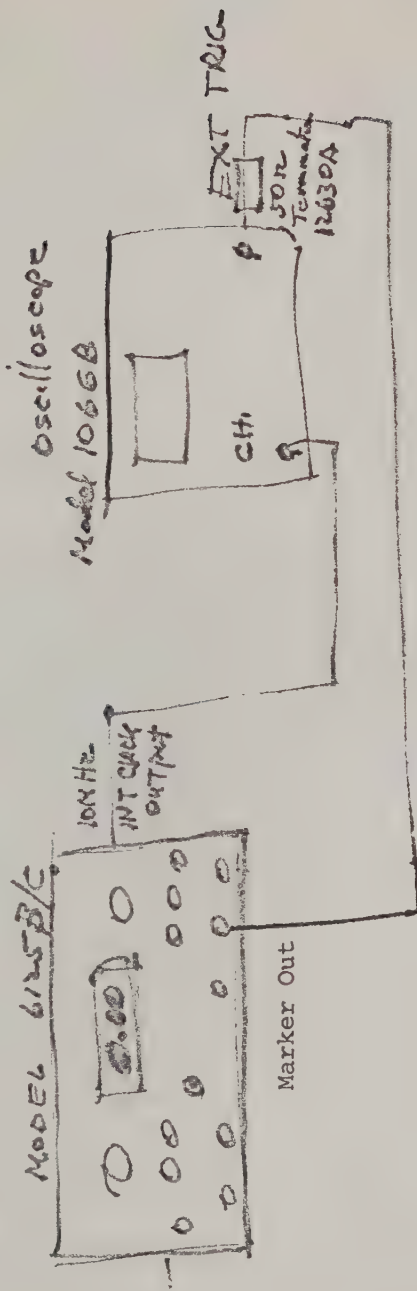

Figure 5-9 PHASE LOCK ADJUSTMENT TEST SET UP
b. Connect an oscilloscope as shown in Figure 5-9. Connect CH1 input to the 10 MHz internal clock output on the rear panel of the 6125B/C. Connect the MARKER OUT to the scope EXT TRIG input BNC.